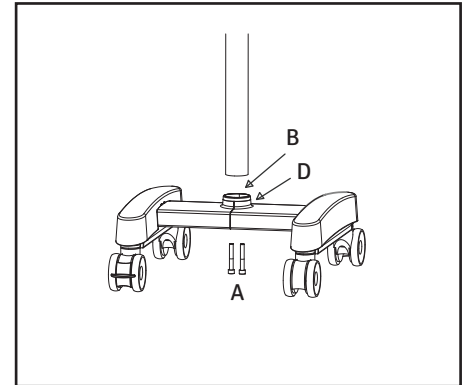

Fig 2
1. Open the microscope box. Remove pillar (column) from the box. Engage this column to the base through indexing pin, shown as B in Fig 2. Align the tapped holes of the column with the base and tighten two allen screws from the bottom, shown as A in Fig 2.
2. Make sure that during assembly of the column, ring (D) is fixed in place, as shown in Fig 2.